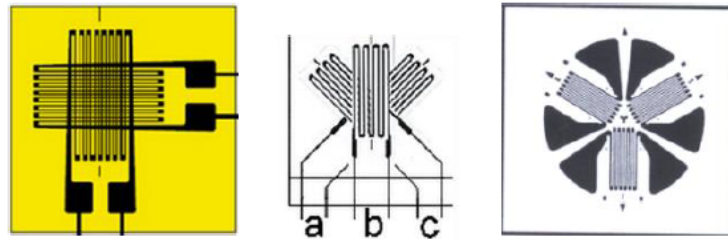

Fig. 7.118: Sketch of different rosette types
Fig. 7.118 shows sketches of different rosette types: left: 90° (T), middle: 45°, right: 120° rosette.